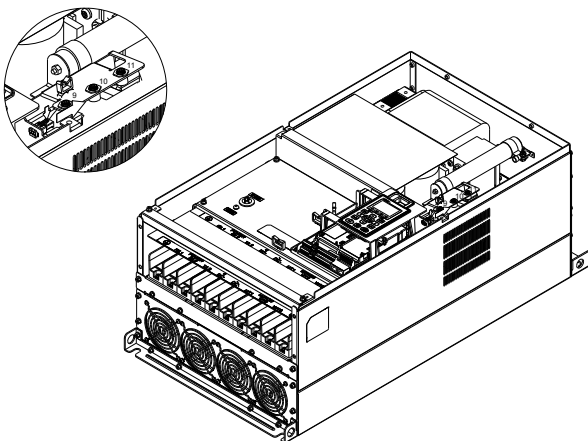
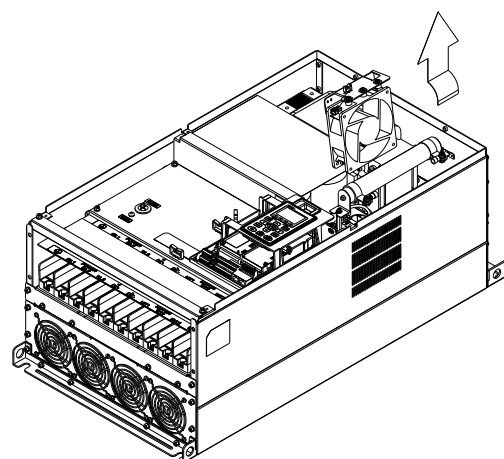

Figure 3
Figure 4
3. Loosen the screws and remove the fan. (figure 3 and figure 4) Screw torque: 12–15 kg-cm / [10.4–13 lb-in.] / [1.2–1.5 Nm]